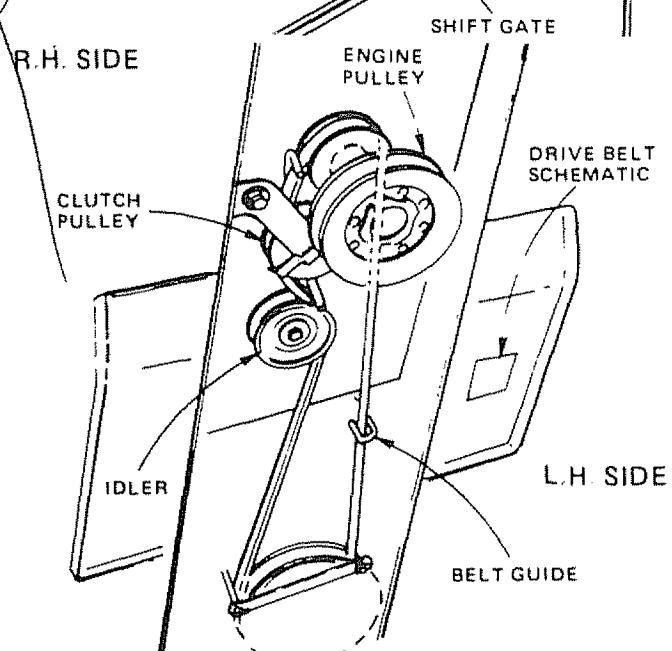

FIGURE 22
- Roll belt over engine pulley and off idler (Fig. 22)
- Reset parking brake. Pull belt over top of clutch pulley (Fig. 22).